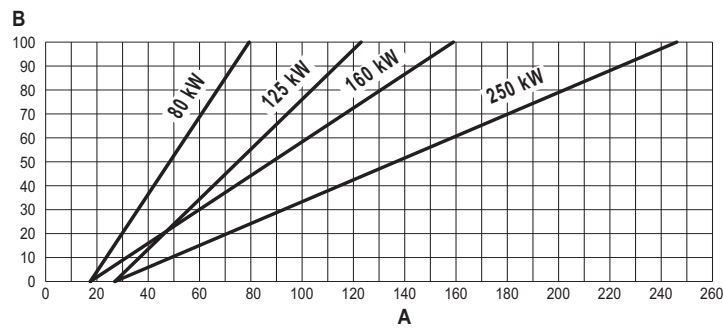

fig. 60
- Press the **heating buttons** (details 3 and 4 - fig. 1) to increase or decrease the power (min. = 00 - max. = 100). See the diagram "Heating Capacity Adjustment" (fig. 60).